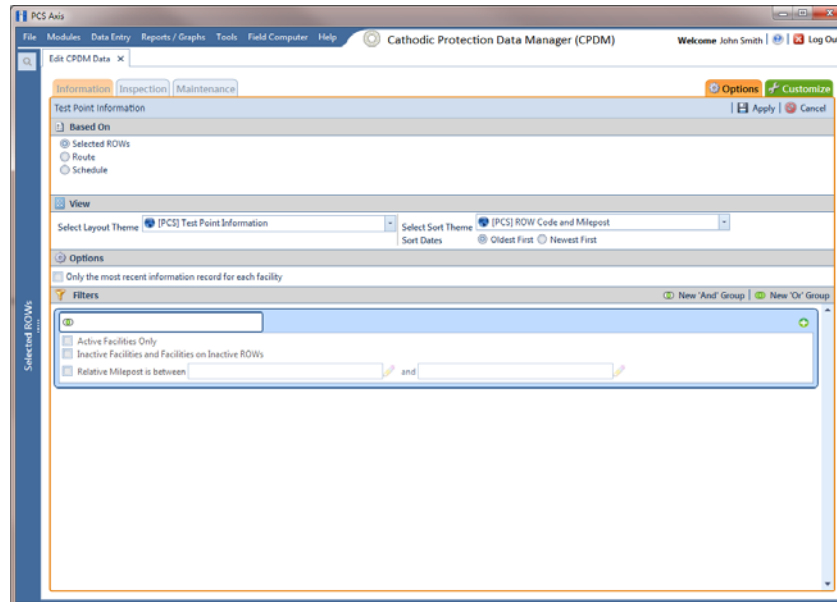

Figure 7-14. Options
- 8 Click  **Save**, then click the **Options** tab  to open the options page (Figure 7-14).